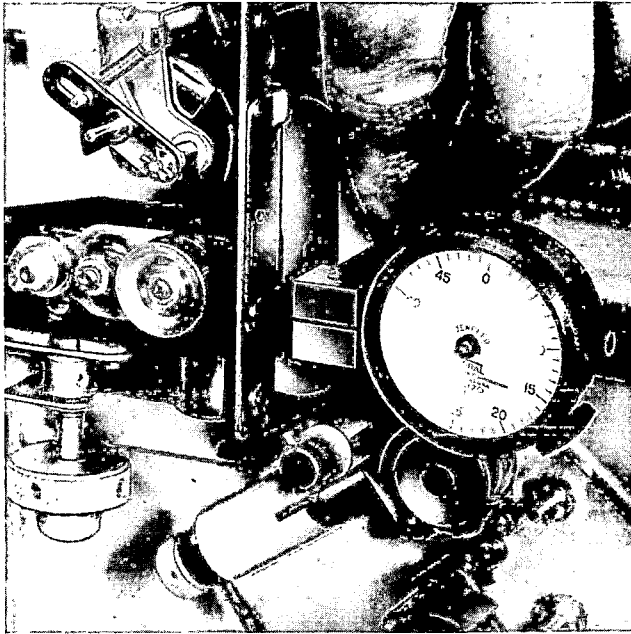

Figure 14. Checking Shuttle Tooth Protrusion with Indicator Gage
d. As indicated in figure 14, place gage against aperture plate with gage plunger contacting center shuttle tooth. The gage indicator reading should not be less than 30 nor more than 33 (indicating a protrusion of 0.030 to 0.033-inch).